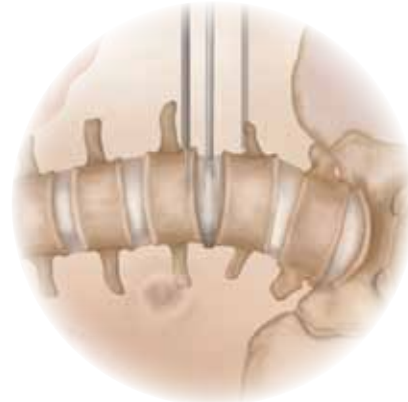

Figure 32
Step 7 A Paddle Style Shaver is placed into the disc space and rotated several times to clean the end plates (**Figures 32 and 33**). A/P fluoro should be used to center the shaver in the disc before turning. The appropriate sized shavers should be carefully selected to ensure the end plates are not compromised.